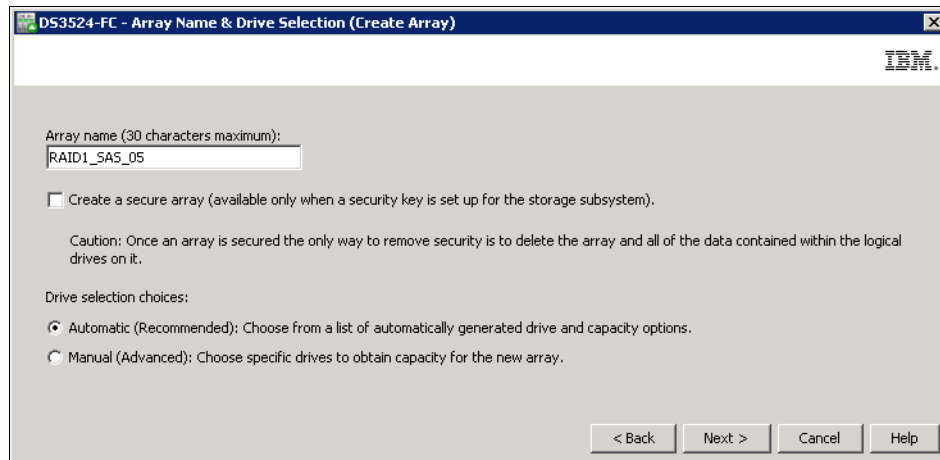

Figure 9-6 Create Array and assign a name and mode
2. In the Create Array window, type a meaningful array name that describes your set of disks, and then select either **Automatic mode** or **Manual mode**. Automatic mode is the default option as shown in Figure 9-6. By selecting the Automatic option, the Storage Manager software selects a combination of available drives to optimize performance and availability, and attempts to select physical drives from separate enclosures to provide enclosure protection whenever possible. If some SED disk drives are used in DS3500, you will also see the check box for selecting the encrypted disks for array creation. For more information about disk encryption, refer to Chapter 15, “Disk Security with Full Disk Encryption drives” on page 439.
You can also perform manual selection from the Physical tab. You can select multiple unconfigured disk drives in Physical pane using the Ctrl key before selecting to create a new array. If you right-click one of preselected disks and select **Create Array**, the same initiation window will open as shown in Figure 9-6. In this window you can see manual mode is preselected. With this manual mode, follow the instructions in this chapter, and when you reach the window for disk drives selection, you will recognize, your planned disks are already selected for new array.